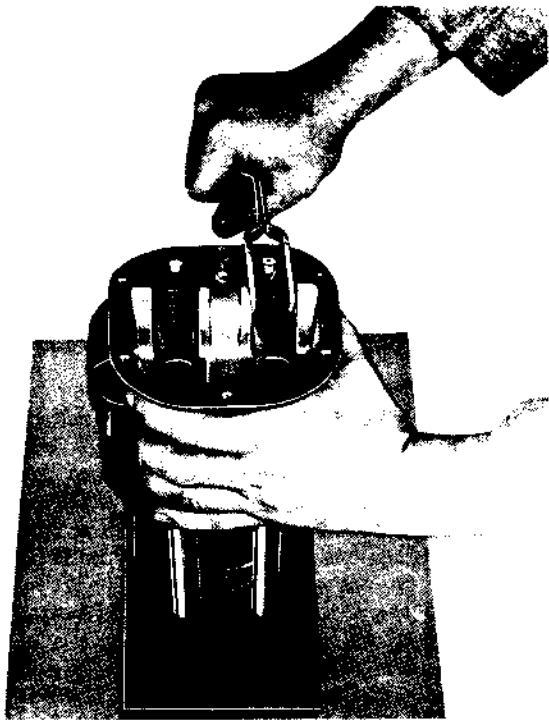

Figure 13. Compressing Valve Springs for Installation and Removal of Locks.
(4) After removal, place cylinders on wood or appropriate carrier to prevent damage at bottom end of barrels. Cover crankcase openings to prevent dust or grit from entering the crankcase.
(5) Push piston pin out and remove piston from connecting rod. If necessary, use aluminum drift to drive out piston pin, being careful to support the piston in the hand during this operation to prevent damage to the connecting rod.
(6) Remove the piston rings from the ring grooves of all pistons. Tie the set of rings for each piston together and tag. Number each tag with the number of the piston from which the rings were removed.
(7) Placing the cylinder over a wooden stand, shaped to fit the inside of the cylinder head, compress valve springs in rocker box, using a suitable valve spring compressor, (figure 13), such as supplied by the Borroughs Tool Company, remove the seat locks with thin-nosed pliers, release the compressor, and remove the spring seat, inner and outer springs, spring retainers and valves.